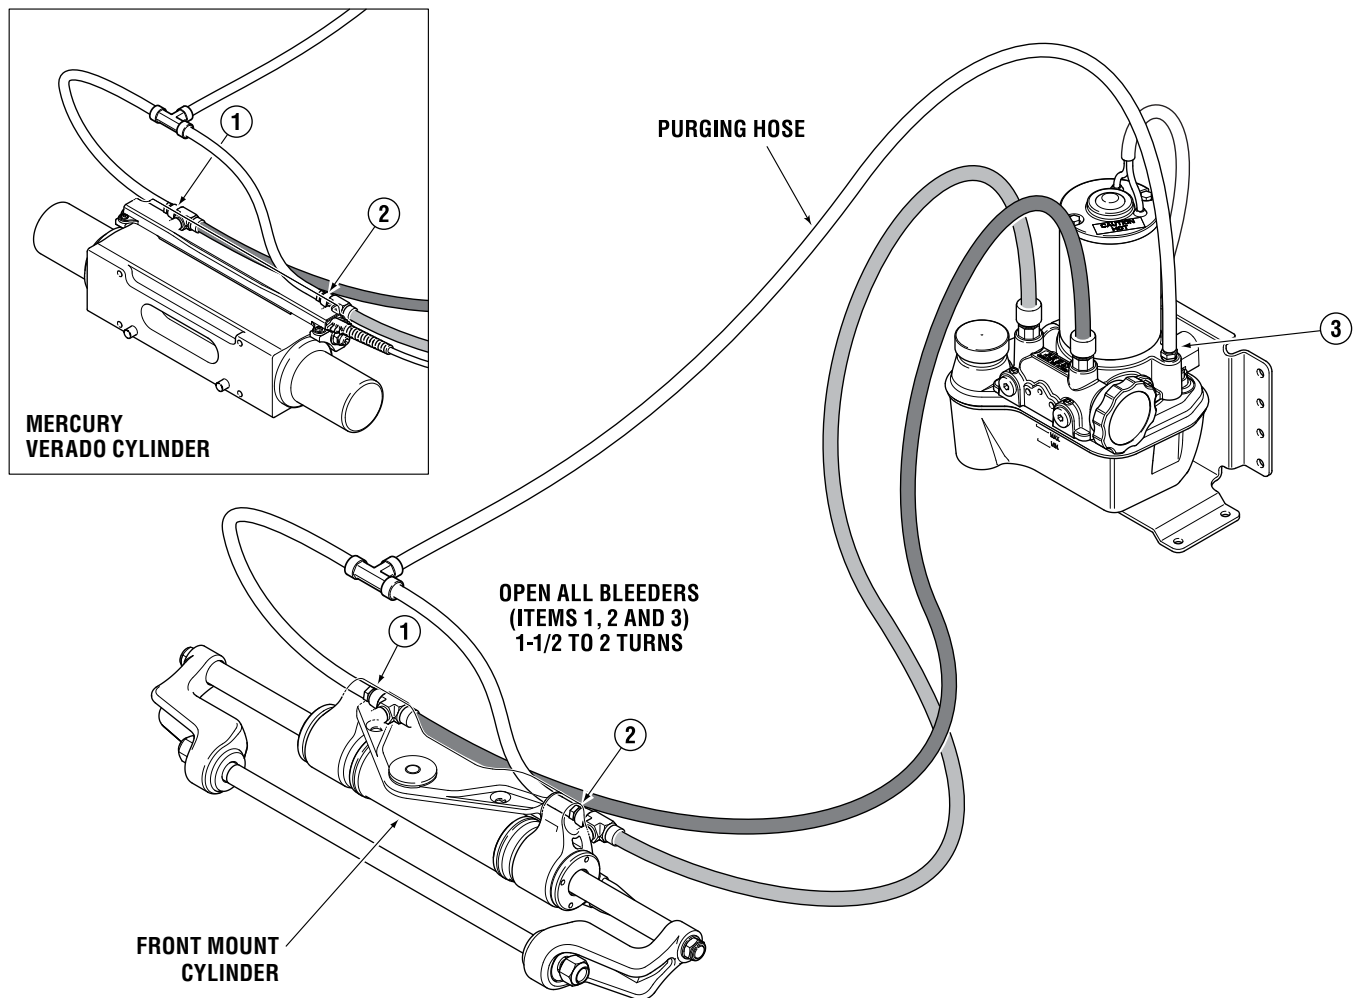
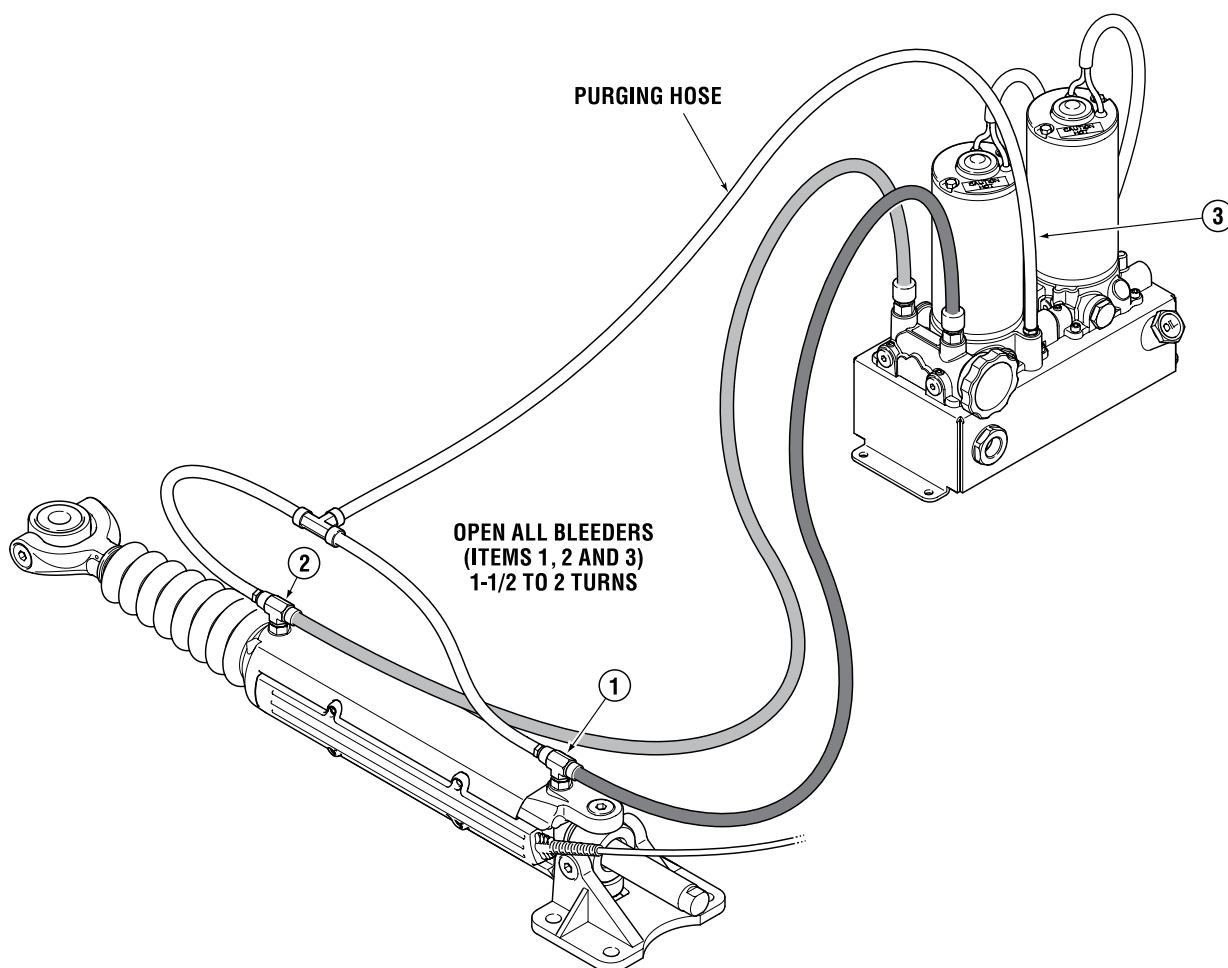

Figure 5-4.
Figure 5-5.
2. Connect the purge hose as shown in figure 5-4 or figure 5-5. Figure 5-4 illustrates an outboard system, however the purge hose connections are the same for 3000 series systems. Figure 5-5 shows the purge hose connections for a 5000 series systems.
Failure to open the pump bleed fitting (item 3 in figure 5-4 and figure 5-5) may cause the purge hose to rupture.